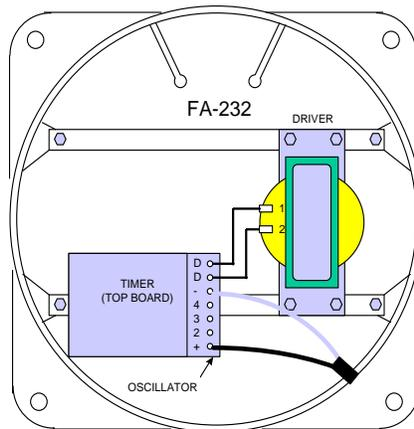

Figure 3-54
- g. Install spade lugs on each wire and install on the “+” and “-“ terminals on the oscillator board, as shown in Figure 3-54. The oscillator board is located on the access plate on the SA-850 emitter. Wiring is similar.